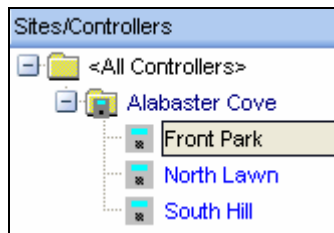

Figure 21.0.3
2. Next Click on a controller from your controller list to highlight it (Figure 21.0.3).